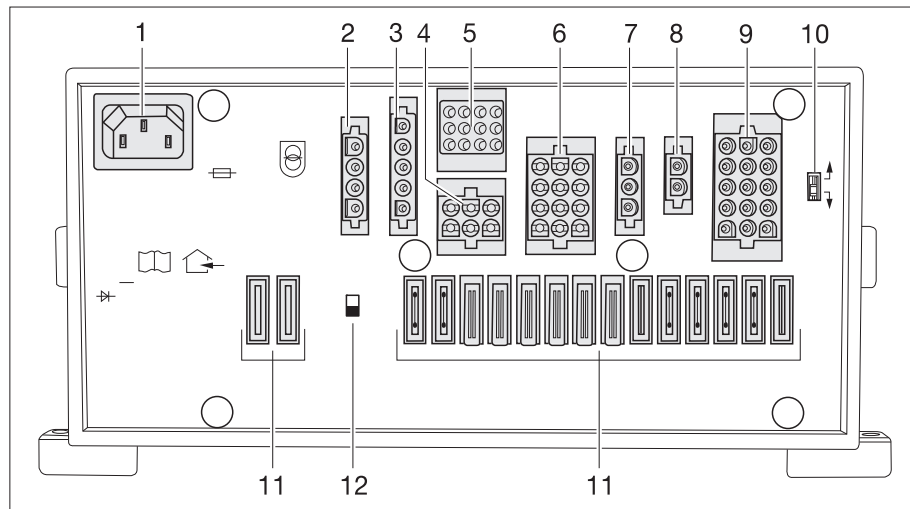

Fig. 263 Transformer/rectifier (EBL 119)
- ▷ The battery cut-off switch (Fig. 263,12) disconnects all the appliances that are connected to the transformer/rectifier from the 12 V network.
- ▶ If the battery selector switch (Fig. 263,10) is set incorrectly, oxyhydrogen gas (exploding gas) can form. Danger of explosion!
The battery selector switch (Fig. 263,10) is used to set the charger module in the transformer/rectifier to the type of living area battery installed in the vehicle ("lead acid", "dryfill" or AGM).